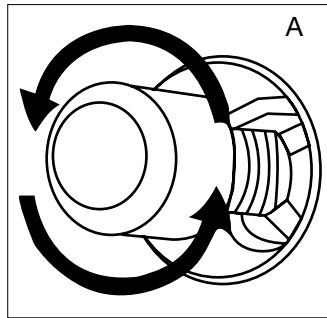
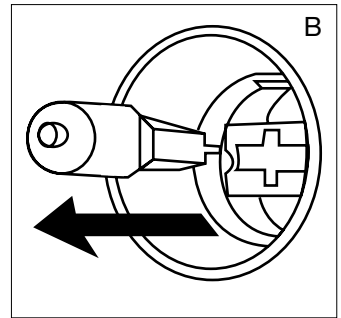

Figure 144
Figure 145
3. Then remove the oven lamp by turning it (see fig. 144) if it is type A, or by pulling it (see fig. 145) if it is type B.